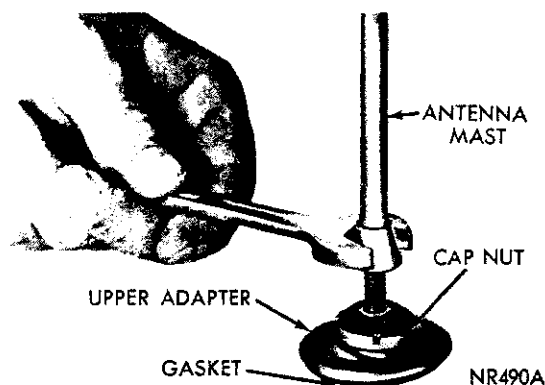

Fig. 4—Antenna Mast Removing or Installing
- (1) Unplug antenna lead from radio receiver.
- (2) Remove antenna by unscrewing mast from antenna body (Fig. 4).